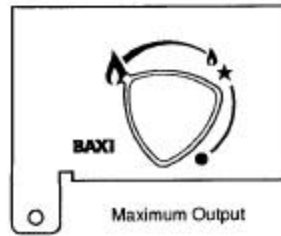

Fig. 25
4. With the burner alight, depress the control knob slightly and rotate anticlockwise to the maximum output position (♠) (Fig. 25).